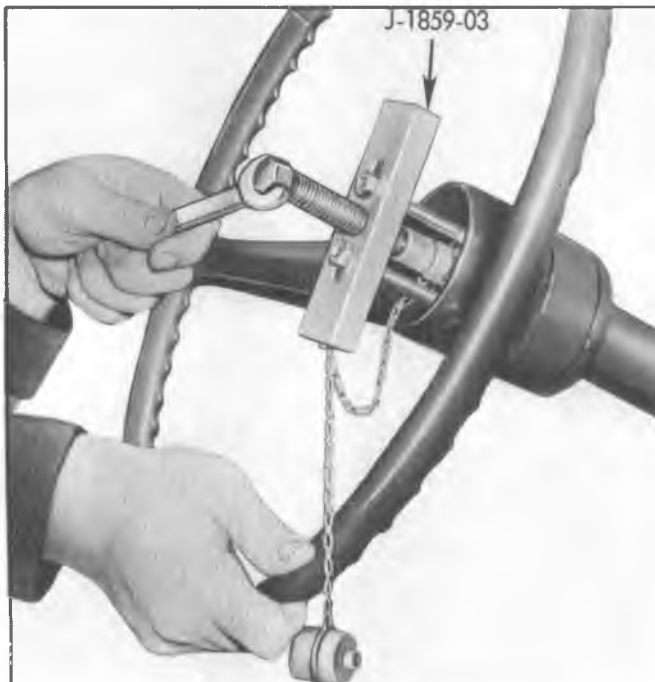

Fig. 3B4-21—Steering Wheel Removal
4. Using tool J-1859-03, thread puller anchor screws into holes provided on steering wheel. See Fig. 3B4-21. Turn center bolt of tool clockwise to remove wheel.